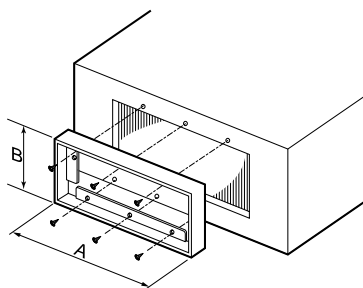

Fig. 1
- Using 6 screws, mount the flange to the supply air port of the indoor unit. (Fig. 1)